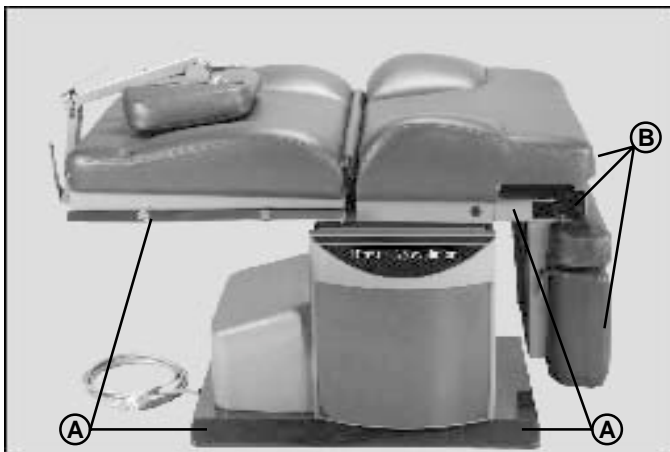

FIGURE 1
1. Do not lift at points B, Figure 1. These points are not supported areas. Lifting at these areas could cause personal injury or equipment damage.
Unpacking: To avoid damaging the table's upholstered top or side panels, do not use a knife or other sharp object to open the packaging when unpacking. Unbolt the table from the wooden shipping skid by removing four (4) bolts on the underside of the base, one at each corner. After unbolting, remove the chair from the skid, lifting only at Points A, Fig. 1.
Do not lift at Points B, Figure 1. These points are not supported areas.